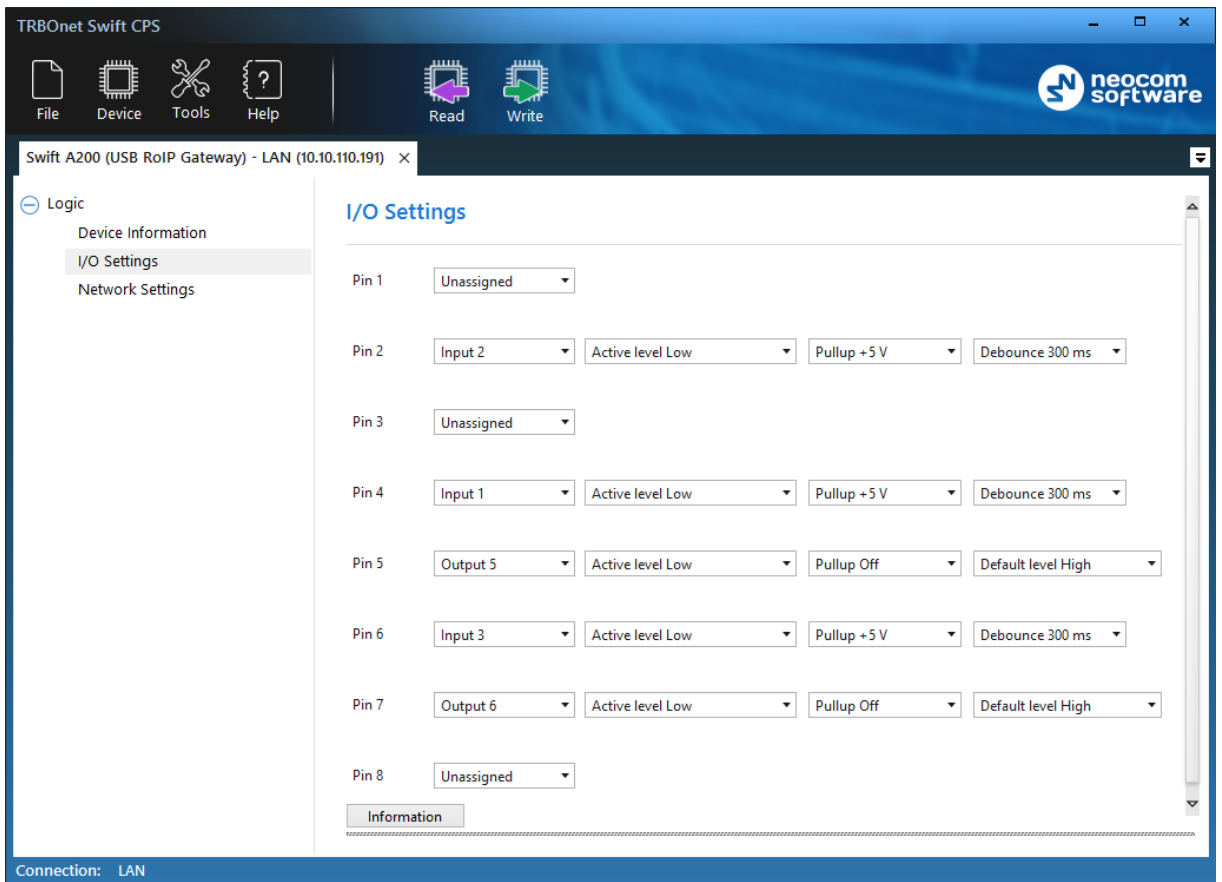

Figure 17: Pin configuration
In the Swift A200 configuration, the physical I/O pins are mapped to the logical pins of TRBOnet (Figure 17).
- Under **Control states**, select the logical input pins that you have mapped in the configuration of your Swift A200 (Figure 17, page 22). Do not select pin 0. For each selected pin:
- Under **Commands**, select the logical output pins that you mapped to the physical pins of your Swift A200 (Figure 17). For each selected pin, specify a descriptive name. In the **Value ON** and **Value OFF** fields, double-click the value and enter a custom name of the command.
- Select the logical input pins (**PIN 1** through **PIN 4**) that you have mapped in the configuration of your Swift A200 (Figure 17, page 22). Leave **PIN 0** not selected.
- For each pin, expand the **Pin value** menu and select the active level exactly as specified in the Swift A200 configuration (Figure 17, page 22).